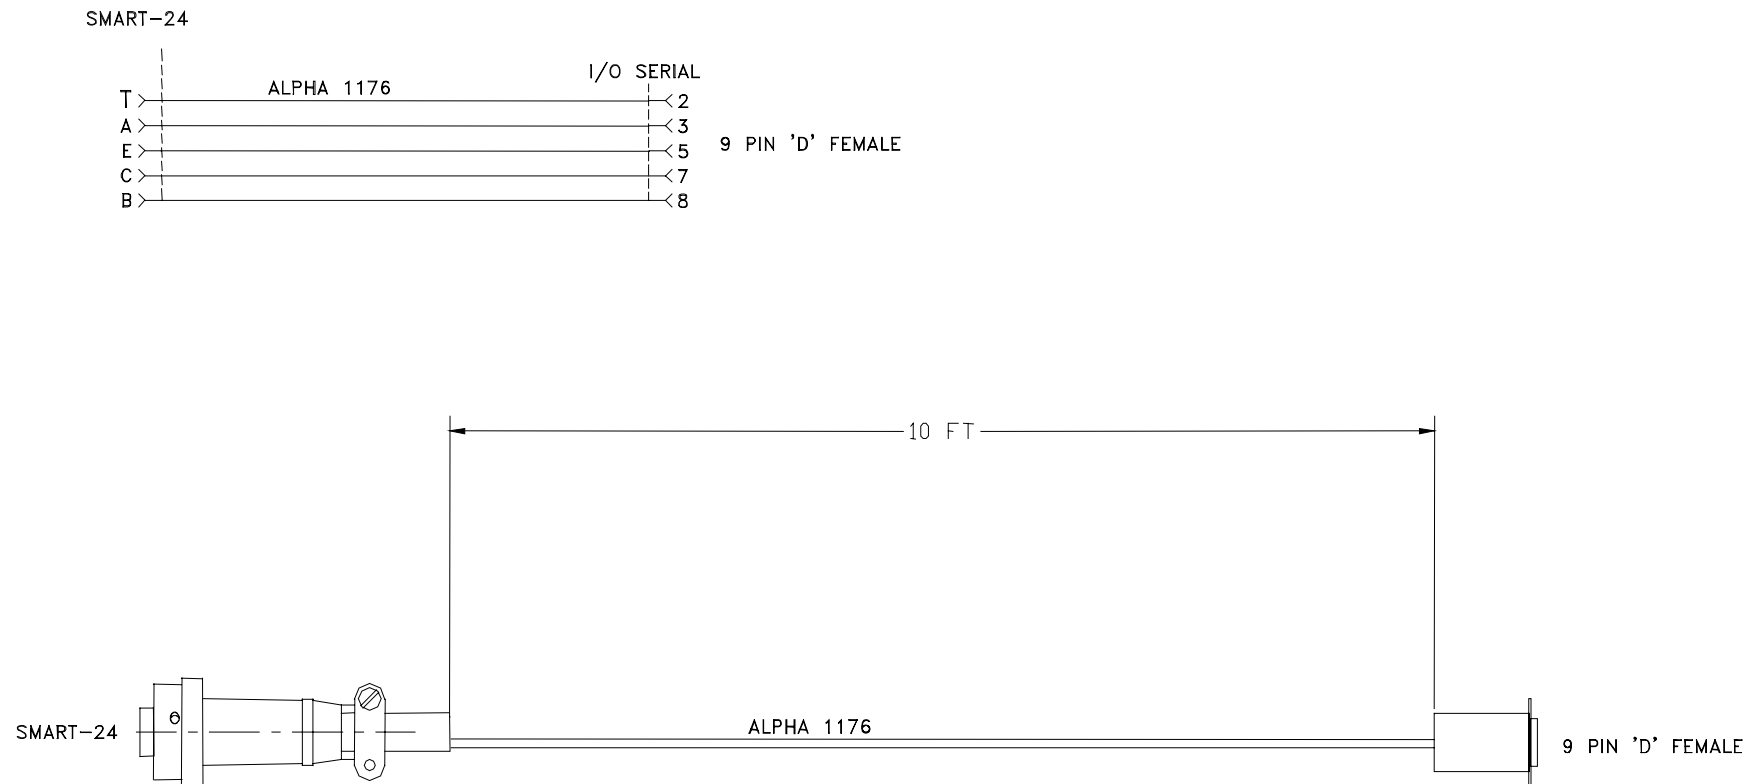

Figure A-3. SMART-24 I/O Cable, Serial to 9 Pin PC
- Figure A-3. SMART-24 I/O Cable, Serial to 9 Pin PC